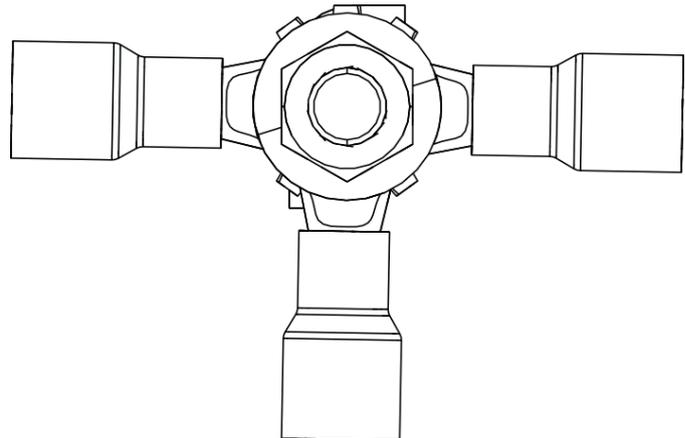

Fig. 127 Potential equalization
4. Fasten the loose ends of the potential equalization for power supply unit and controller on the hammer head screw (screw pack **34053801150**) in the following order (Fig. 127):